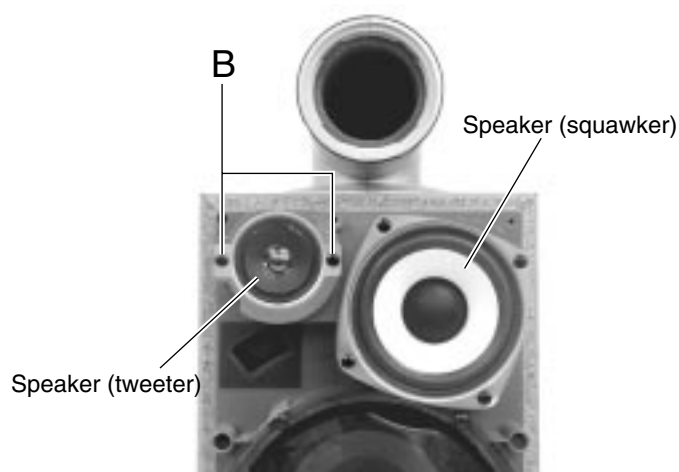

Fig.2
■ Removing the speaker (tweeter) (See Fig.2)